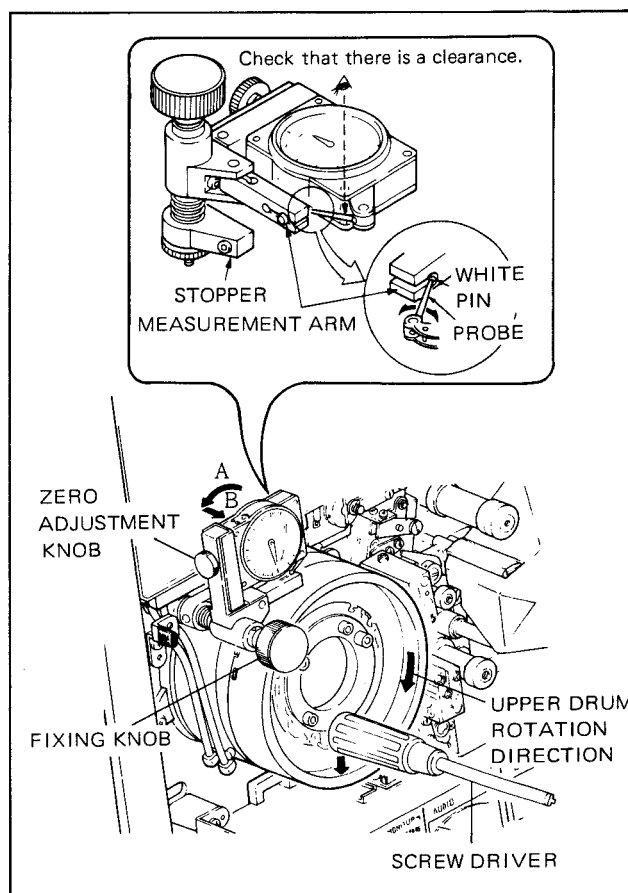

Fig. 6-18. Upper Drum Installation and Eccentricity Adjustment.
24. Move the gauge in the direction A shown in Fig. 6-18 and pull it fully in the direction B and then turn it slowly back toward the drum.